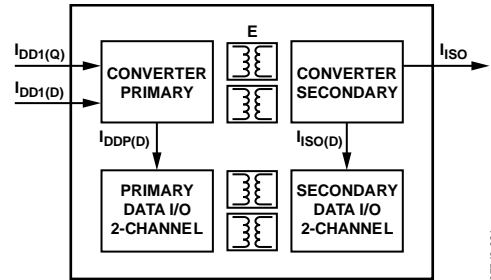

Figure 27. Power Consumption Within the ADuM5200/ADuM5201/ADuM5202
The VDD1 power supply input provides power to the iCoupler data channels as well as to the power converter. For this reason, the quiescent currents drawn by the data converter and the primary and secondary input/output channels cannot be determined separately. All of these quiescent power demands have been combined into the IDD1(Q) current shown in Figure 27. The total IDD1 supply current is the sum of the quiescent operating current, dynamic current IDD1(D) demanded by the I/O channels, and any external IISO load.